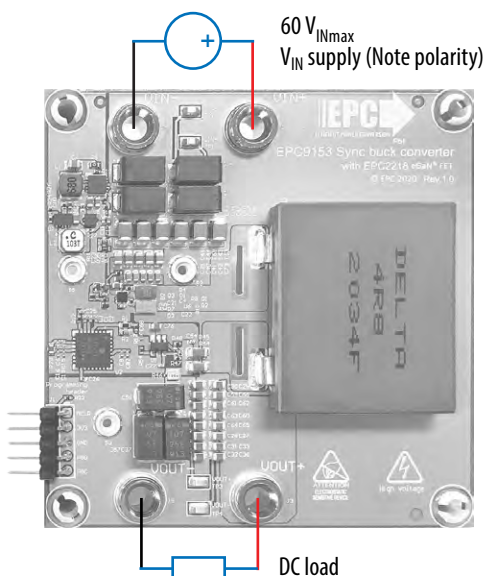

Figure 13: Input and output connection
1. With power off, connect the input power supply to VIN+ and VIN- as shown in Figure 13.